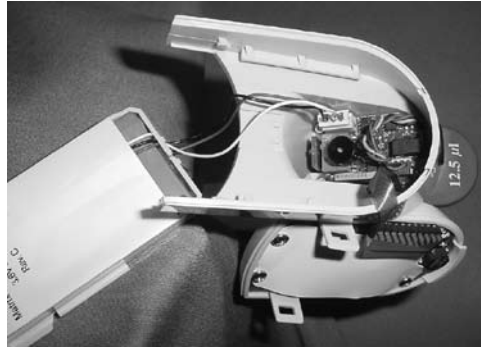

Figure F.3.2e: Remove Console Cover
- 3. Carefully Remove Console Cover.** Press and lift off console cover assembly (see *Figure F.3.2e*). BE CAREFUL not to tear the attached flex cable! (Refer to *Figure F.3.2f*).